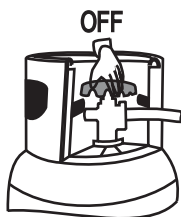

Fig.6
10. Turn off valve of gas cylinder after cooking. (Fig 6)